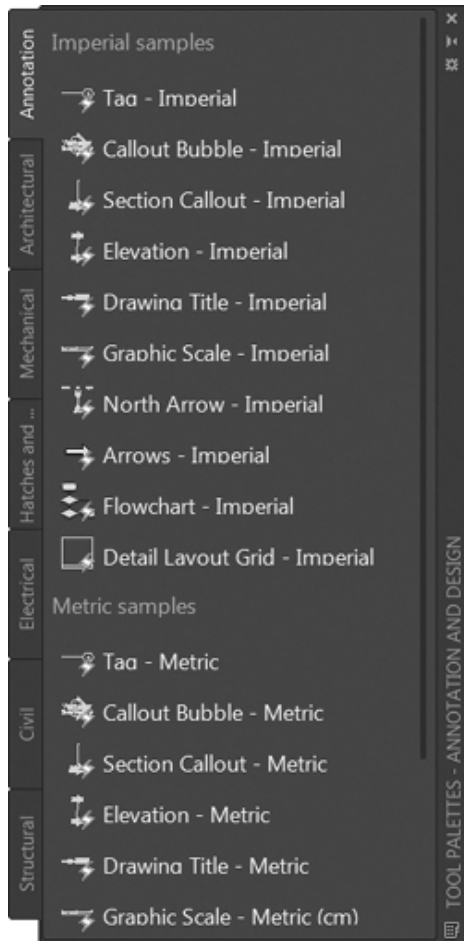

Figure 16-62
Dynamic blocks are multipurpose blocks that can be changed after they are inserted using special grips that allow you to display multiple block views, sizes, block behavior, and more. Using dynamic blocks, one block definition can be used for myriad different scenarios and situations. Dynamic blocks are covered in detail later in this section. The AutoCAD tool palettes are shown in Figure 16-62.
The **Auto-hide** feature can also be quickly turned on and off via the **Auto-hide** button located directly above the **Properties** button (see Figure 16-62).
- 3 Right-click anywhere on the **Tool Palettes** title bar, and select **Annotation and Design** from the shortcut menu to turn on only the **Annotation and Design** tool palettes shown in Figure 16-62.